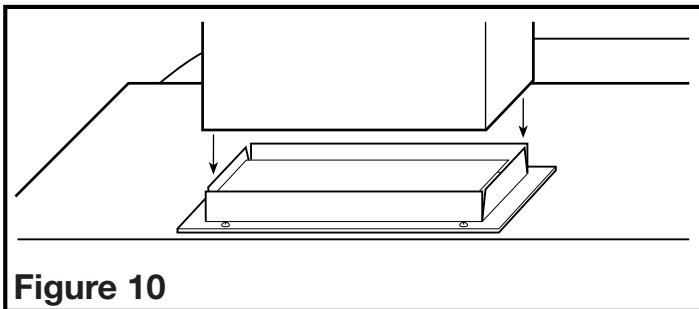

Figure 10
1. Connect the ducting to the hood's duct collar and damper. Ensure duct joints and exterior penetrations are sealed with caulk or other similar material to create an air-tight path to minimize building heat loss or gain and to reduce the potential for condensation. Place/wrap insulation around duct and/or fan in order to minimize possible condensation buildup within the duct, as well as building heat loss or gain (Figure 10).